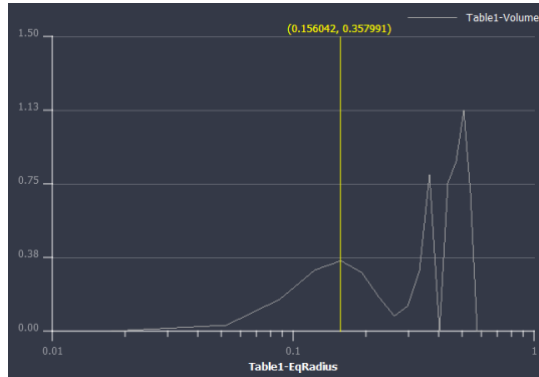
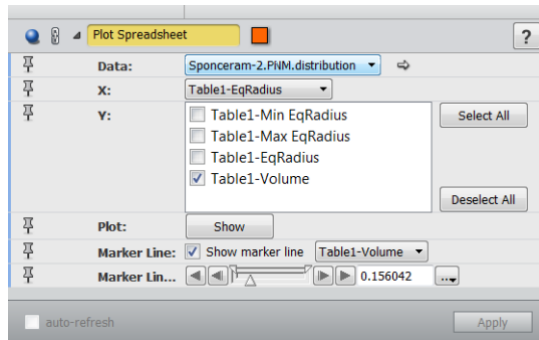

Figure 17.21: Pore Size Distribution
Figure 17.22: Plot SpreadSheet
- The distribution curve as shown in Figure 17.21 is displayed using a *Plot Spreadsheet* module (see Figure 17.22). The plot shows that the majority of the pore space is filled by big pores, but the predominant small pores have a radius around 0.15.